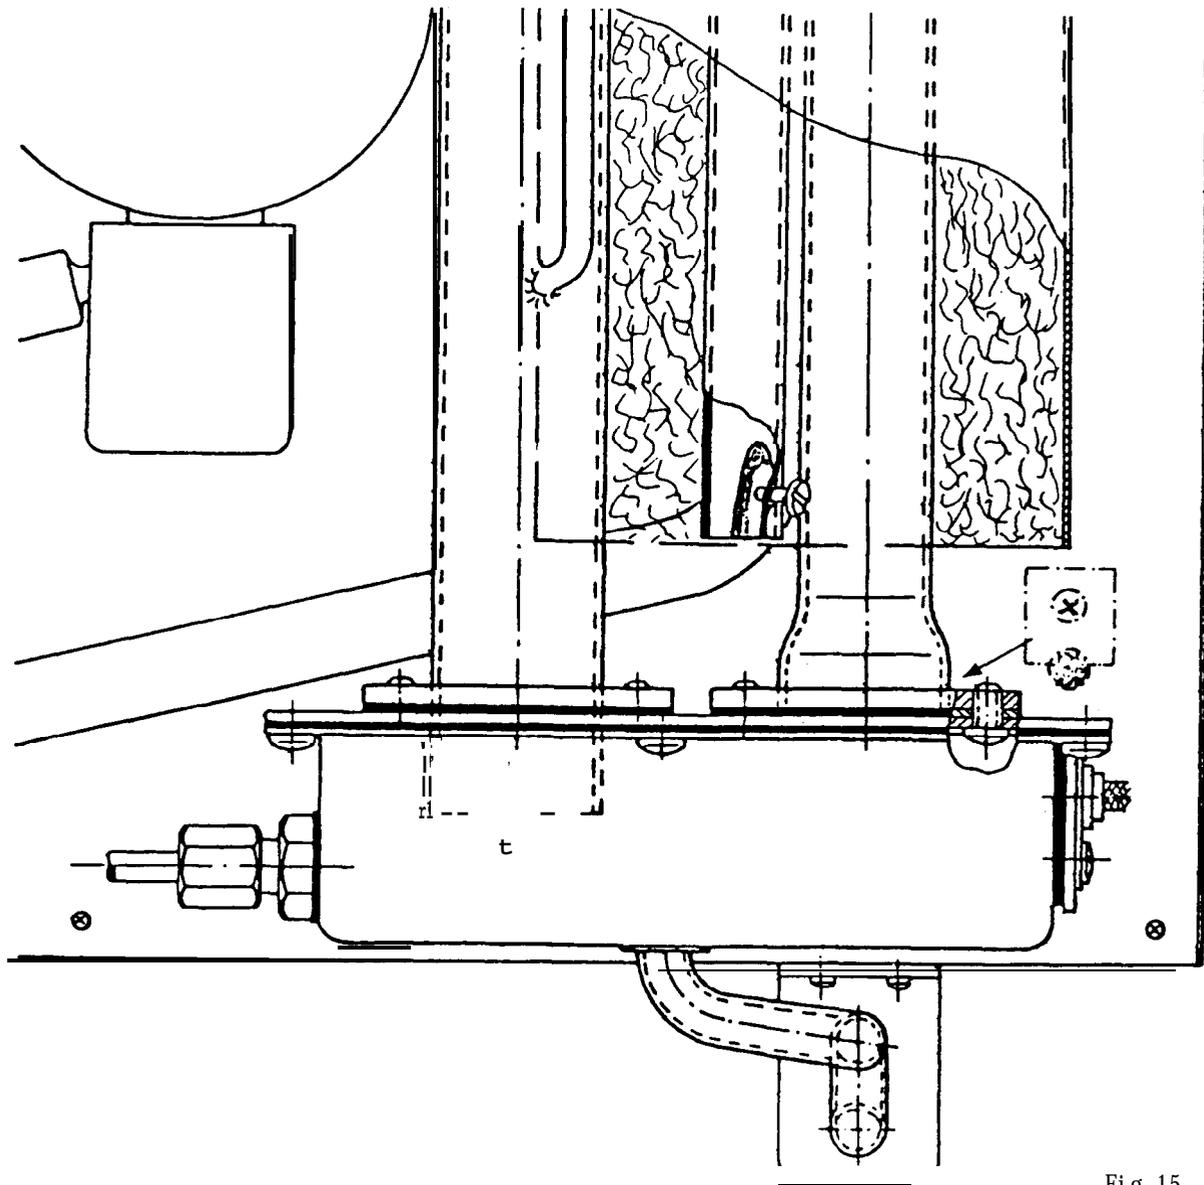

Fig. 15
9. Unscrew six screws (A, Fig.15) from the bottom part of gas burner and two screws from support bracket (B, Fig.15) of the drainage tube (C, Fig. 15).
10. Take off bottom part of burner with thermocouple, gas pipe and spark ignitor with cable from upper part of burner (D, Fig.15) by withdrawing to the right side .
11. Unscrew upper part of gas burner (D, Fig.15) with air inlet pipe (E, Fig.15) from the gas heating pipe (F, Fig.15) (2 screws G, Fig. 15).
12. Unscrew locking plate from pilot sight peep (H, Fig.15).
13. Unscrew eight screws (I, Fig. 15) from the cooling unit attachment panel and take cooling unit out of the cabinet.